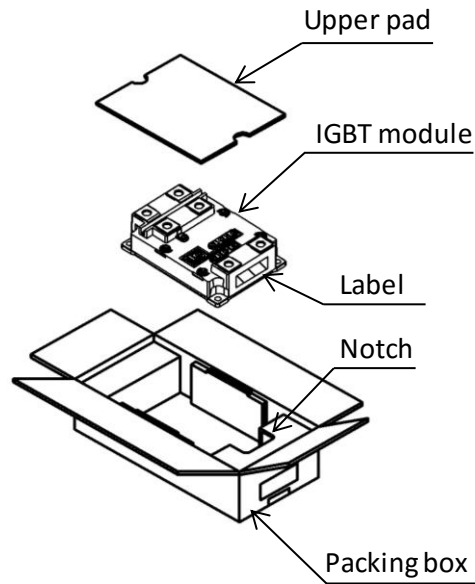

Fig. 3 Packing of nHPD2 module – Inner box
- 3) IGBT module packing in packing box is shown in Fig. 3.